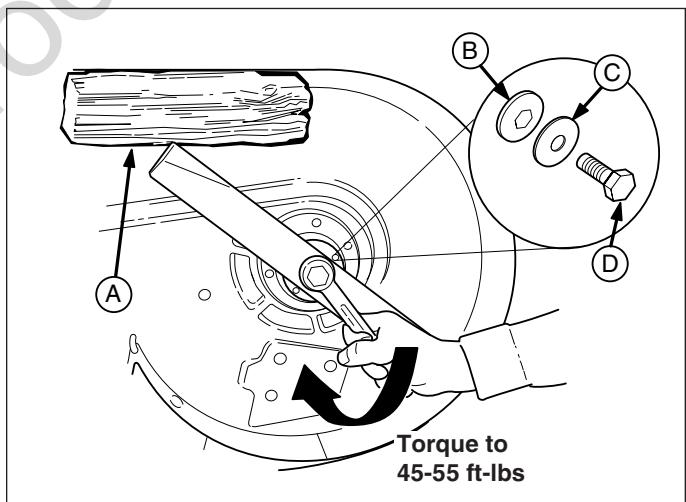

Figure 21. Installing The Blade
6. Reinstall each blade with the tabs pointing up toward deck as shown in Figure 21. Secure with a capscrew (D), cup washer (C) and hex washer (B). Use a wooden block (A) to prevent blade rotation and torque cap-screws to 45-55 ft-lbs (61-75 Nm).